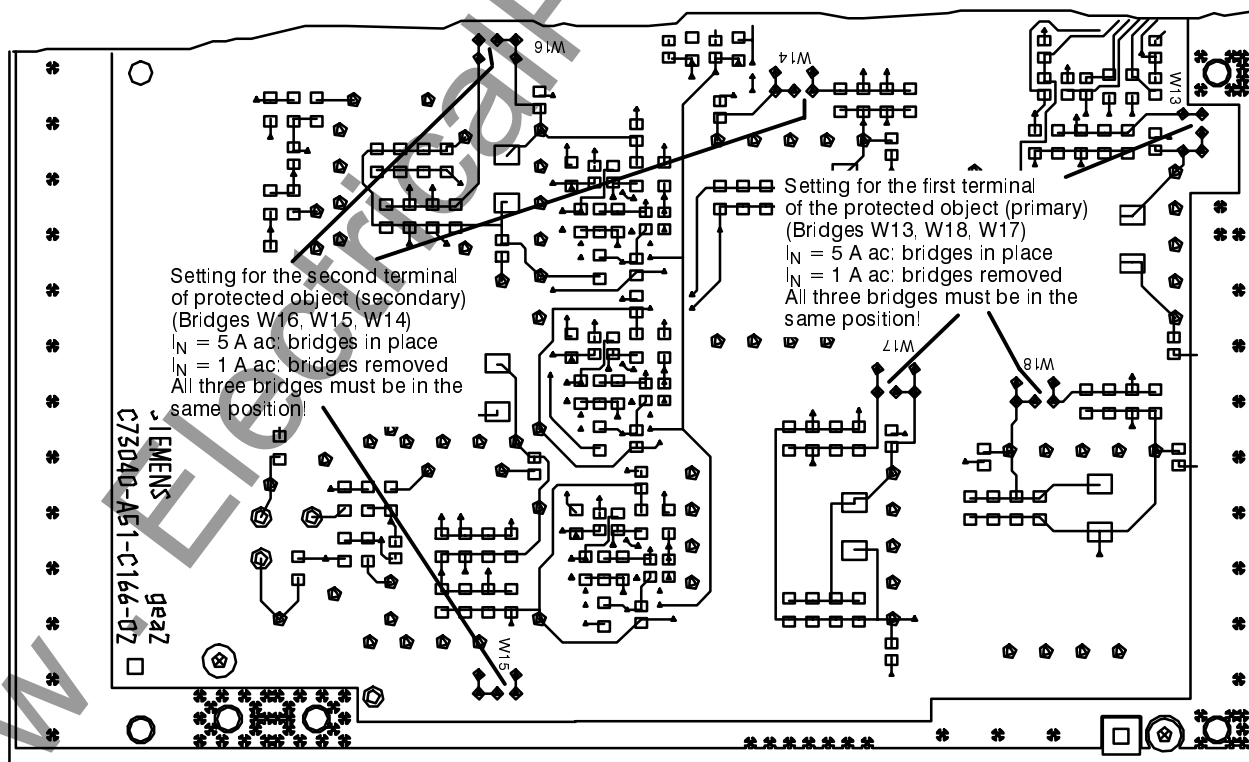
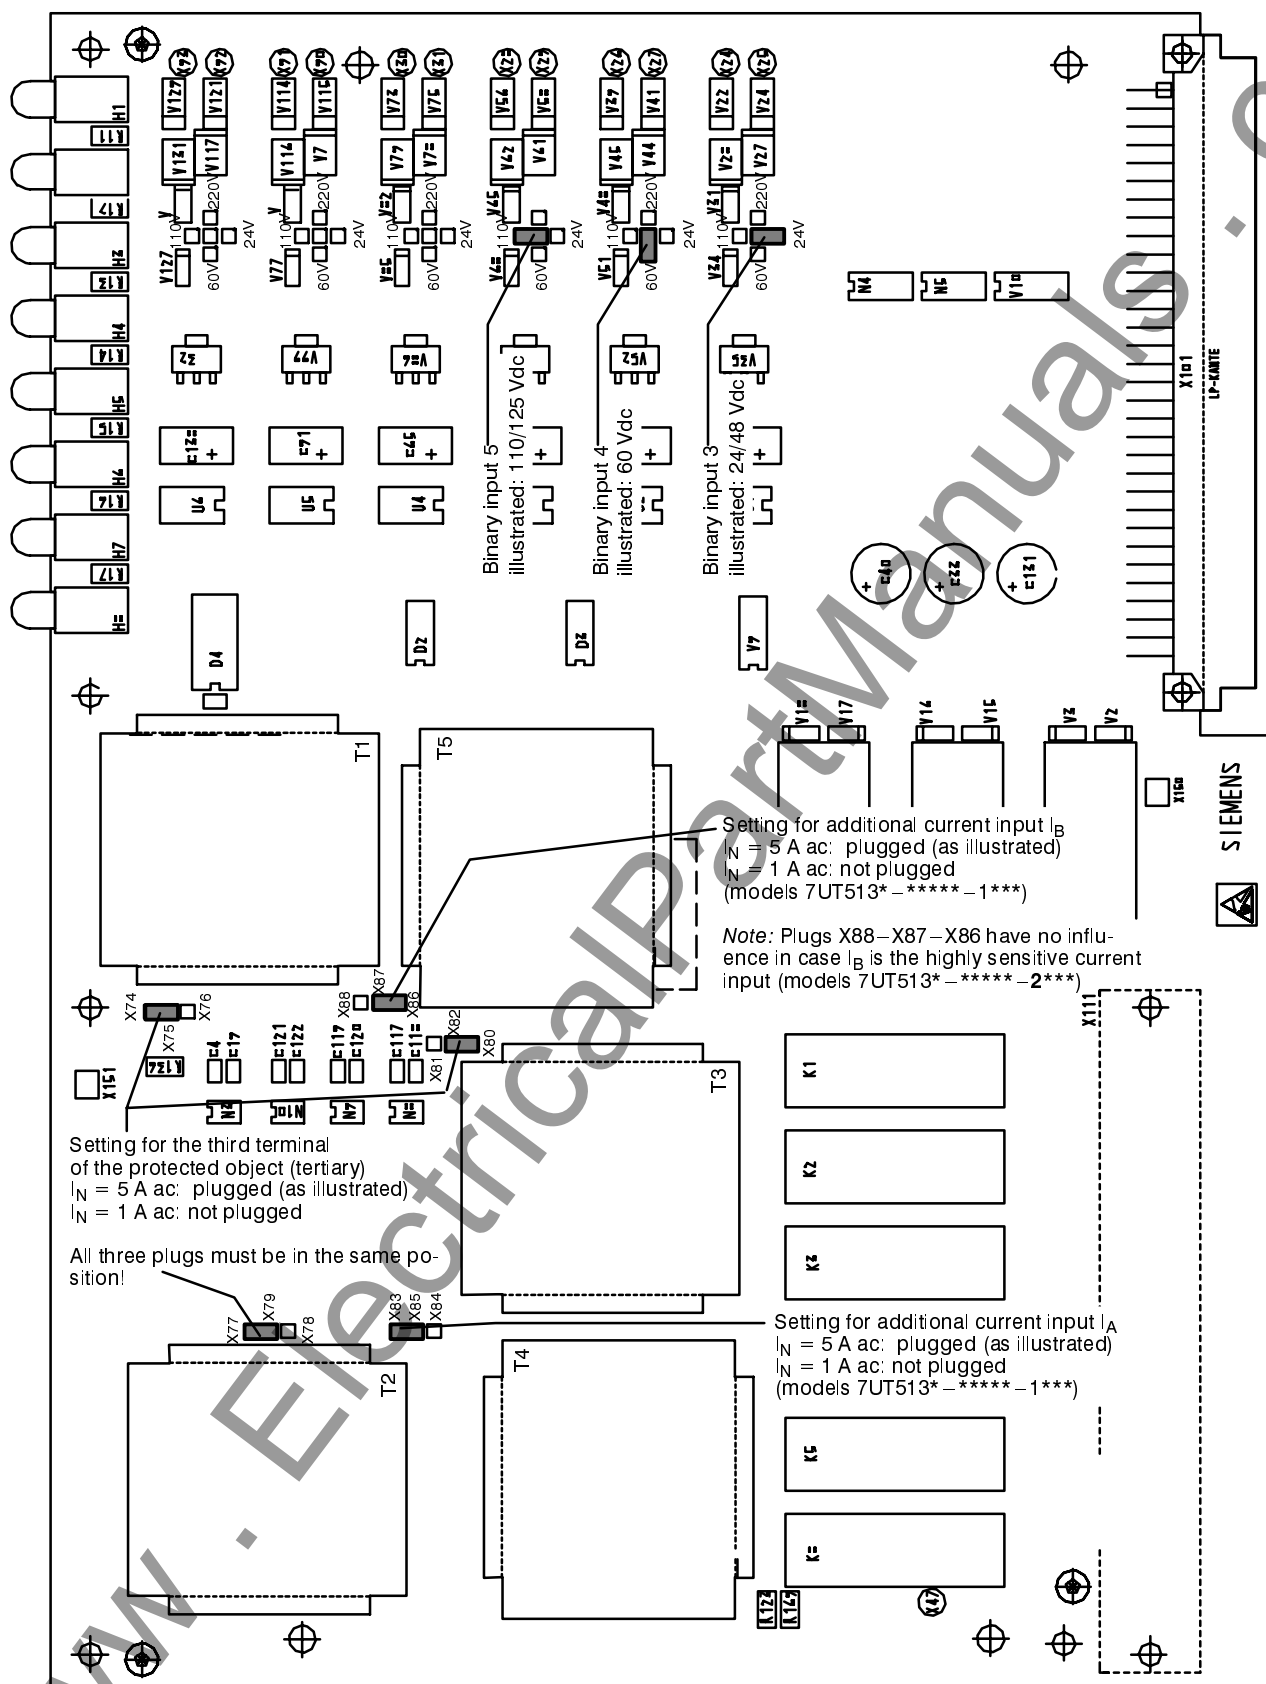

Figure 5.5 Setting plugs on basic input/output module GEA-2, from production series /KK
Figure 5.6 Setting plugs on additional input/output module ZEA-2 (7UT513 only), from production series /KK
- In order to change a 5 A input into an 1 A input, bridges or jumpers must be removed. Figure 5.5 shows reconnection of the rated currents with solder bridges, for the first and second terminal side of the protected object. Cut and bend them aside. Figure 5.6 shows reconnection of the rated currents with plug jumpers, for the third terminal side of the protected object (for 7UT513 only).
For production series from /KK: check the plugs according to Figure 5.5.
For production series from /KK: check the plugs according to Figure 5.6.